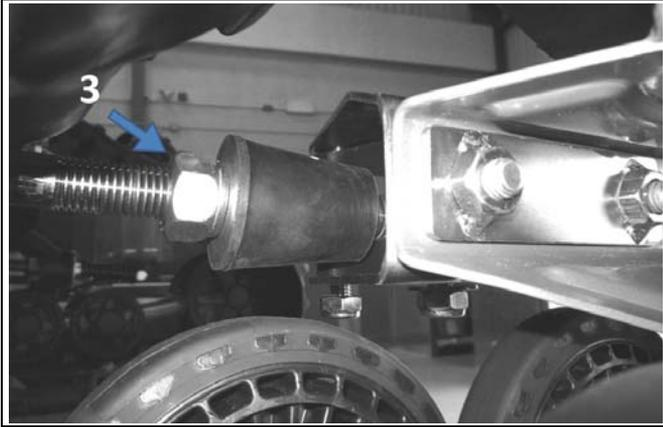

Figure 13
- Turn nut (3) until the rubber cone is in contact with the housing of the anti-rotation retainer. The nut does not apply pressure on rubber cone (See Figure 13).